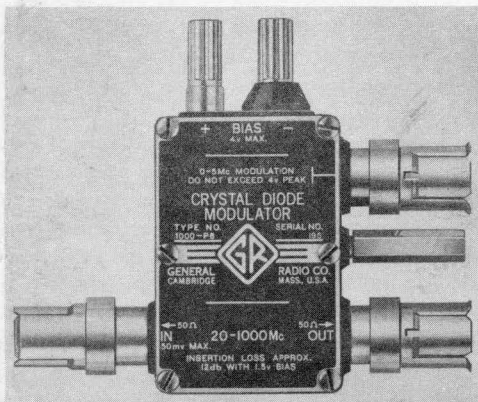

Figure 1. Type 1000-P6
1.1 PURPOSE. The Type 1000-P6 Crystal Diode Modulator (Fig. 1) is a simple device for amplitude modulation of the output of an r-f generator over the carrier range of 20 to 1000 Mc. It is especially useful for wide-band modulation (such as is required for television) or for radio receiver tests where incidental fm must be negligible.